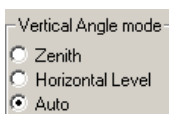

Figure 4-30. Vertical Angle field in the *Open* Window for TS Raw Data File
- TS raw data files do not allow recording information about vertical angle mode. However, you can set it when opening a TS raw data file: on the Vertical Angle field (Figure 4-30), set the mode which was enabled for the survey in the Total Station.